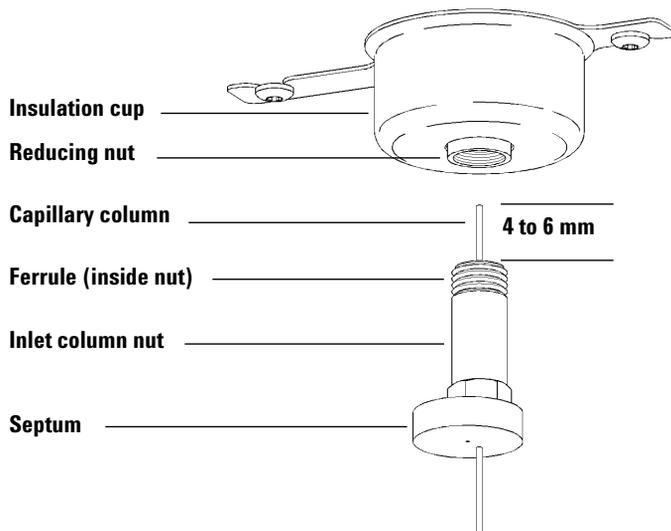

Figure 8 Installing a capillary column for a split/splitless inlet
- 2 Position the column so it extends 4 to 6 mm past the end of the ferrule (Figure 8).